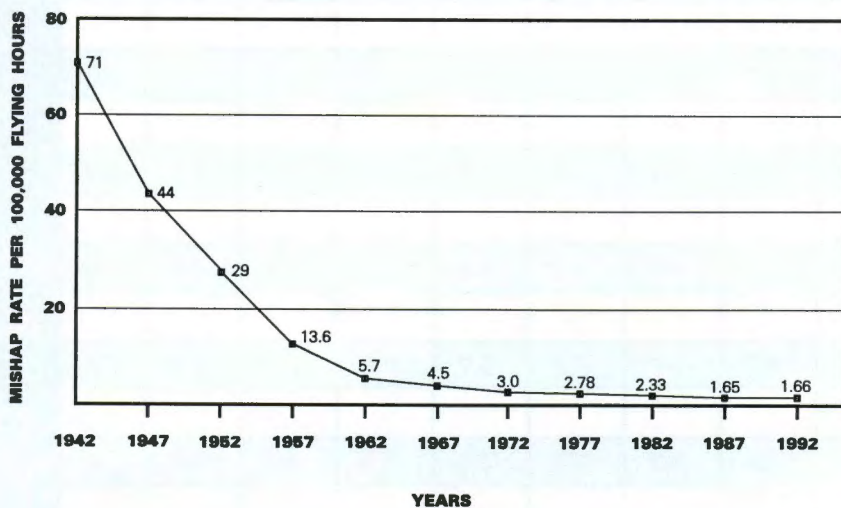

Figure 1
**O**ver the years, safety, operations and maintenance professionals have poured over the wreckage of mishaps and because of their investigations and recommendations, aircraft designs and mechanical systems have been vastly improved. The improvement has been a continuing process and still isn't over; however, through investments in reliability, maintainability and safety, our vast improvements of the past have already affected mishap rates about as much as possible. We've seen the rates drop from 71 mishaps per 100,000 flying hours to the recent 1.66 per 100,000 flying hours (Fig 1).